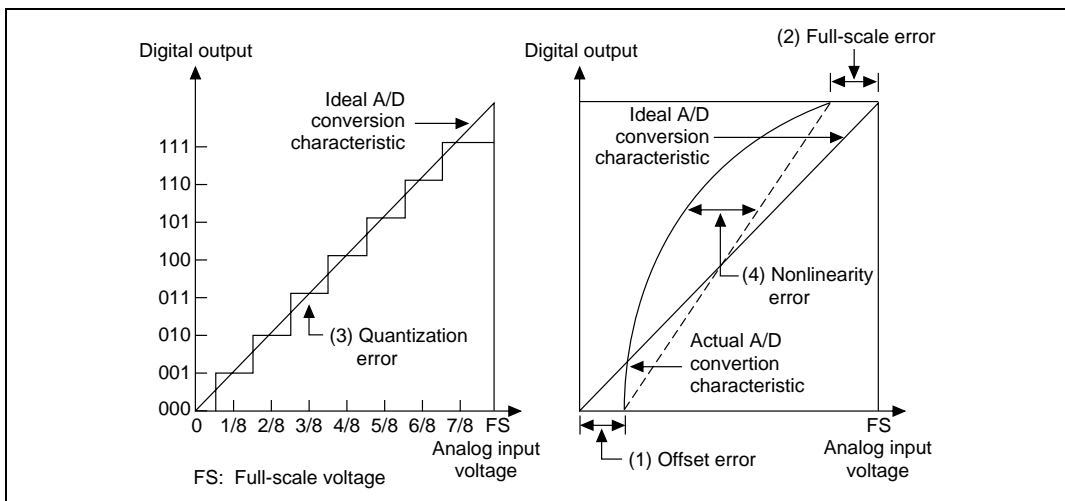

Figure 14.7 Definitions of A/D Conversion Accuracy
These four error quantities are explained below using figure 14.7. In the figure, the 10 bits of the A/D converter have been simplified to 3 bits.
Offset error is the deviation between actual and ideal A/D conversion characteristics when the digital output value changes from the minimum (zero voltage) 0000000000 (000 in the figure) to 0000000001 (001 in the figure)(figure 14.7, item (1)). Full-scale error is the deviation between actual and ideal A/D conversion characteristics when the digital output value changes from 1111111110 (110 in the figure) to the maximum 1111111111 (111 in the figure)(figure 14.7, item (2)). Quantization error is the intrinsic error of the A/D converter and is expressed as 1/2 LSB (figure 14.7, item (3)). Nonlinearity error is the deviation between actual and ideal A/D conversion characteristics between zero voltage and full-scale voltage (figure 14.7, item (4)). Note that it does not include offset, full-scale, or quantization error.